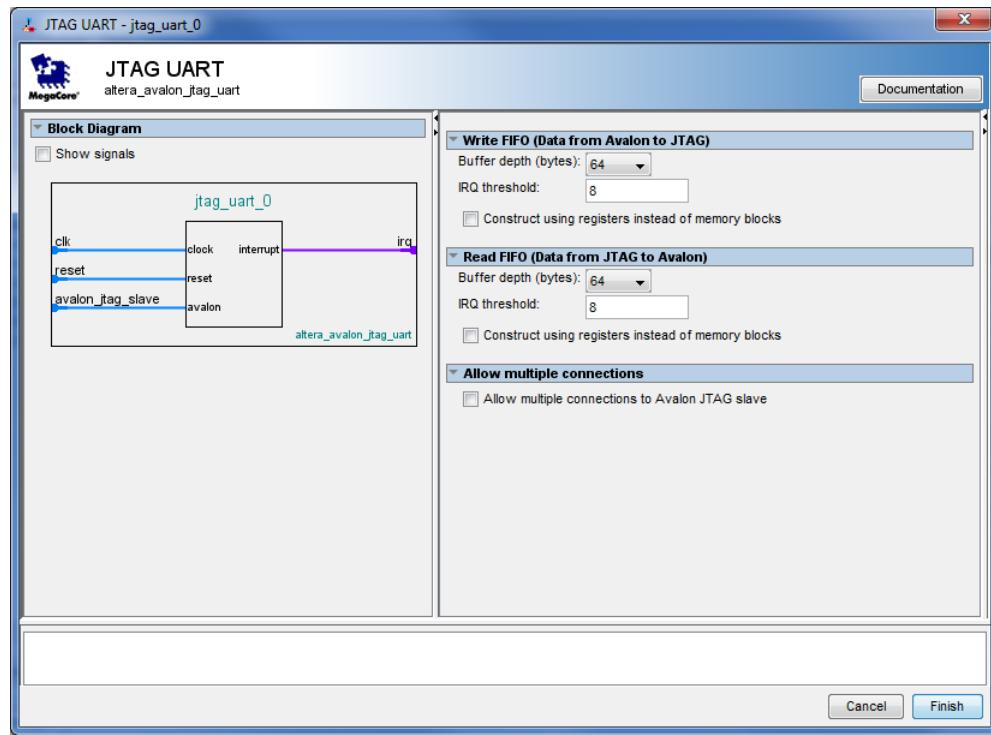

Figure 14. Define the JTAG UART interface.
- Select **Interface Protocols > Serial > JTAG UART** and click **Add** to reach the JTAG UART Configuration Wizard in Figure 14